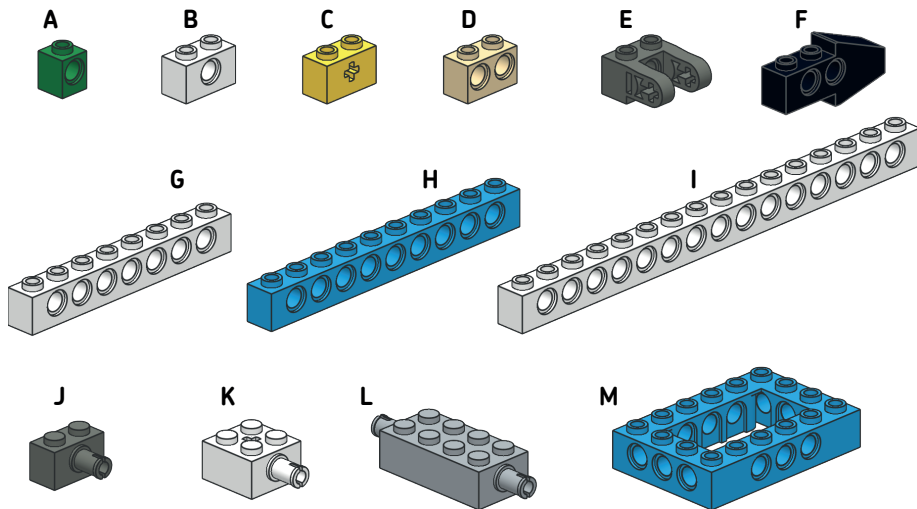

FIGURE S-3 LEGO Technic bricks
FIGURE S-3 and TABLE S-3 show the *Technic bricks* included in the set. The Technic bricks have holes passing through them. Technic bricks are measured by the number of their studs. Except for the 1x1 Technic brick (A), there are no Technic bricks with an odd number of studs.